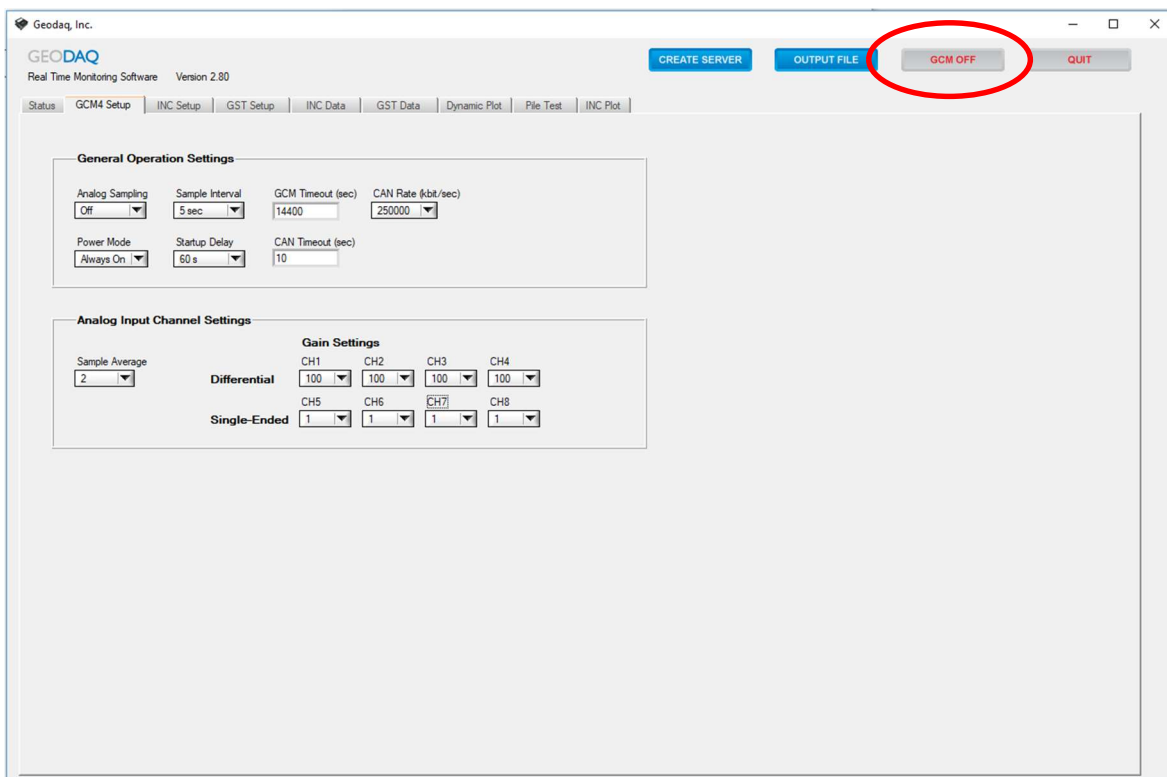

Figure 13 – GCM4 Power Down
- Click the “GCM OFF” button (see Figure 13).